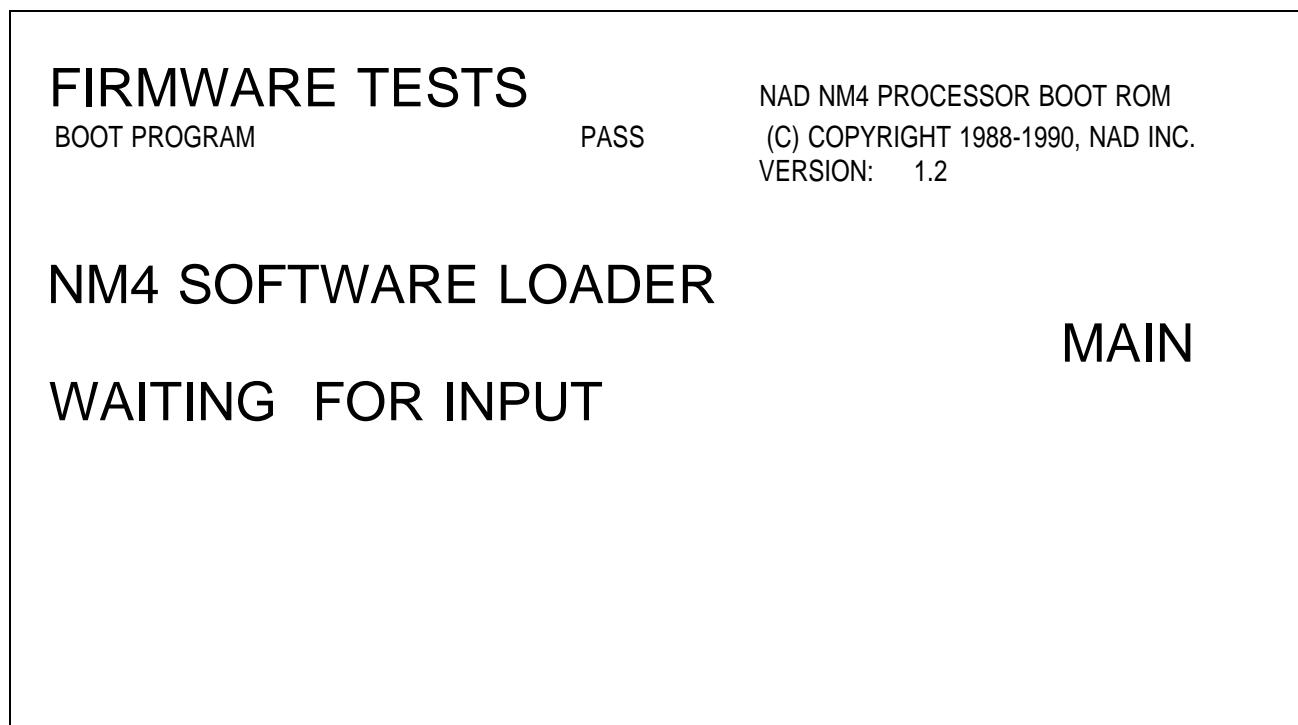

FIGURE 17: NARKOMED 4 LOAD MODE SCREEN
5. Press and hold the MONITOR SETUP and TREND keys, and turn the System Power switch to ON. Release the MONITOR SETUP and TREND keys when the load mode screen shown in Figure 17 appears.